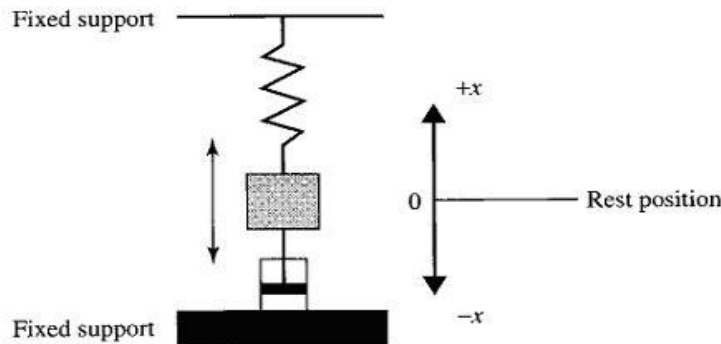

Figure 9: The spring mass damper system
- (d) A spring mass damper system is shown in **Figure 9**. The system is fixed at ends between two supports. Mass is supported by the spring and is free to oscillate about the position of rest. An equation of motion relating vertical motion of mass to applied force will be developed.